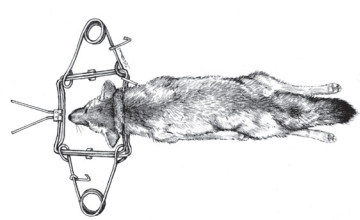

Figure SKF2. Proper strike location
- Should be placed so that the rotating jaws close on the top and bottom of the captured animals neck (Figure SKF2)